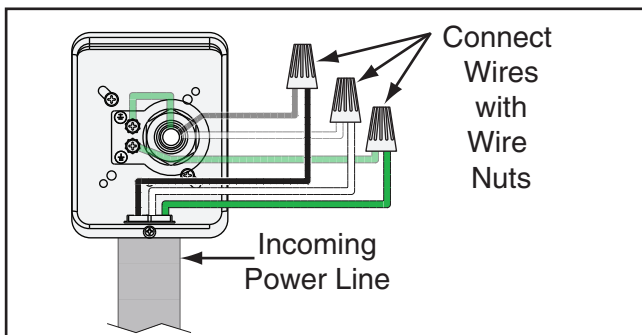

Figure 46. G0605X1/G0696X incoming power wires connected at junction box.
3. Connect the incoming power wires and ground wire to the wires in the junction box using wire nuts, (see **Figures 46–47**), then wrap each of the wire nuts and their respective wires with electrical tape to secure them.